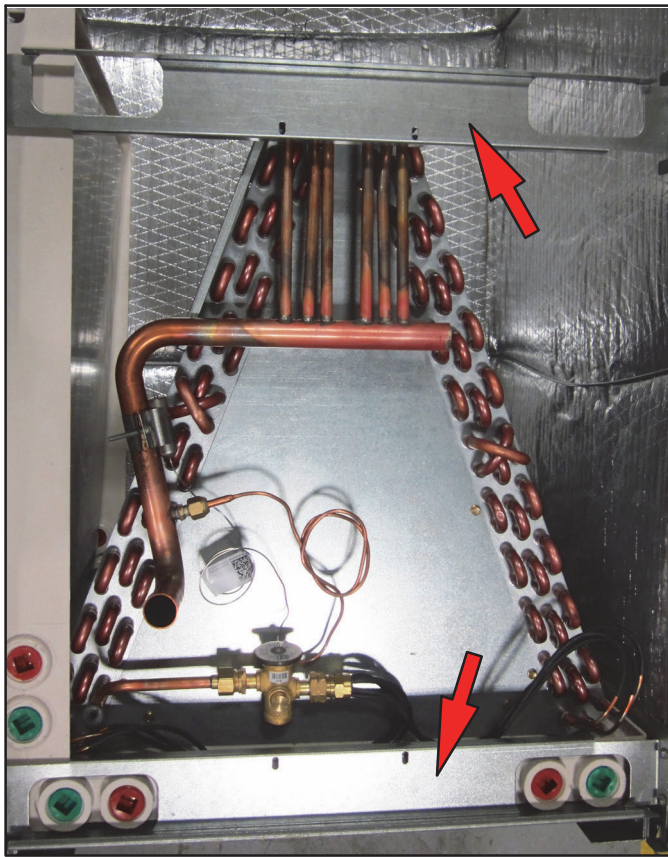

FIGURE 4. Remove Main Drain Pan Mounting Brackets
- 2 - Remove brackets securing pan to unit. See figure 4.